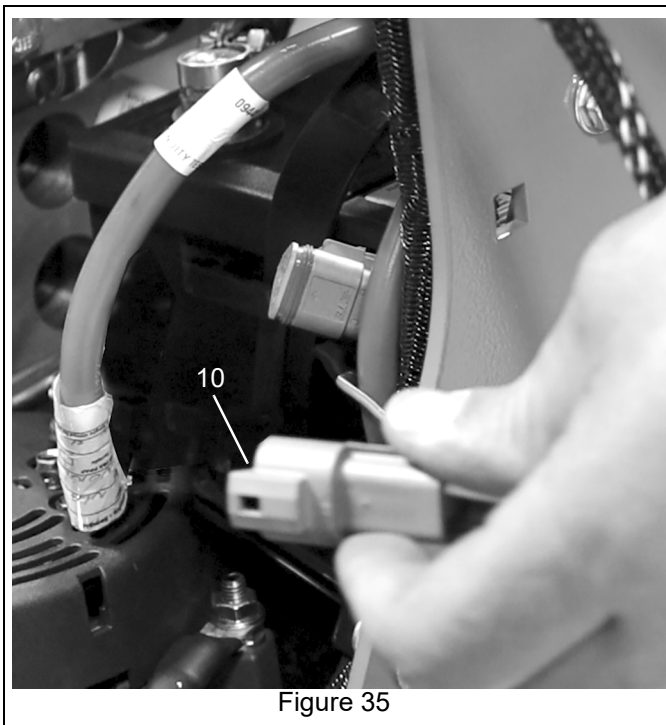

Figure 35
55. Connect triangle-shaped accessory harness connector to tractor harness connector. See Figure 35.